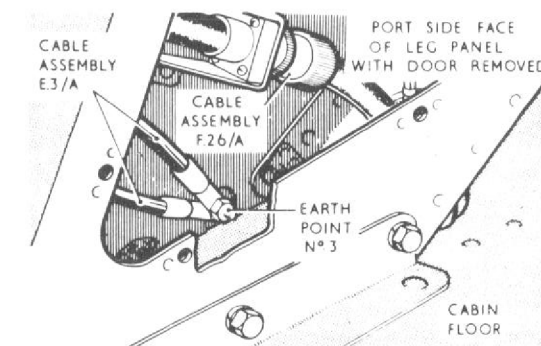

Fig.6 Earth point number 3
- (1) Render the aircraft electrically safe, as described in Group A.1.
- (2) Disconnect the Bowden cable from the rudder bar release lever at the top of the leg panel and stow it away from the panel.
- (3) Disconnect cable assembly E3/A from earth point number 3, obtaining access via the door in the port side of the leg panel (*fig. 6*).
- (4) Disconnect cable assemblies F.5, F.6, F.26A and F.64 from the leg panel. Seal off the plugs and sockets with approved caps and covers and stow assemblies away from the panel.
- (5) Release the leg panel from the mountings by removing the bolts from around the bottom forward and side faces of the panel. Remove the leg panel from the cabin, complete with cable assembly E3/A.